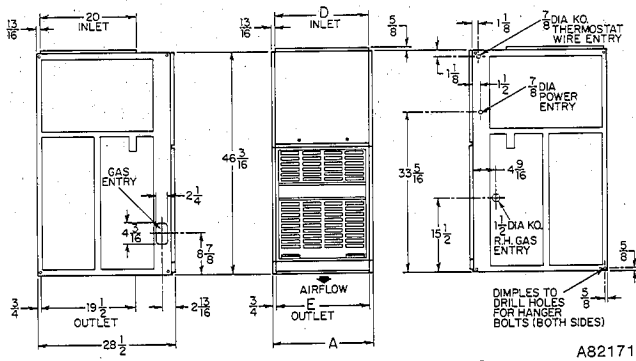

Figure 3—Dimensional Drawing
1. See Figure 3 for dimensions and location of supply-air opening in furnace bottom.
The 376B Furnace can be installed horizontally with either the LH or RH side up. In a crawl space, the furnace can either be hung from the floor joist or installed on suitable blocks or pad. The furnace can be suspended from each corner by hanger bolts (Four each 3/8-in. all-thread rod) cut to desired length, 1 x 3/8 flat washer, 3/8 lockwasher, and 3/8 nut. Dimples are provided for hole locations. See Figure 3.